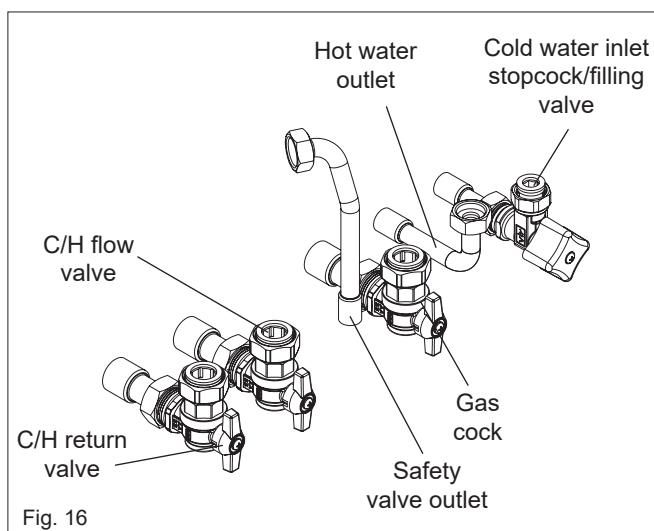

Fig. 16
4.6.1 GAS (fig. 16)
4.6.2 FLOW & RETURN (fig. 16)
4.6.3 COLD WATER INLET (fig. 16)
4.6.4 HOT WATER OUTLET (fig. 16)
4.6.5 SAFETY VALVE (fig. 16)